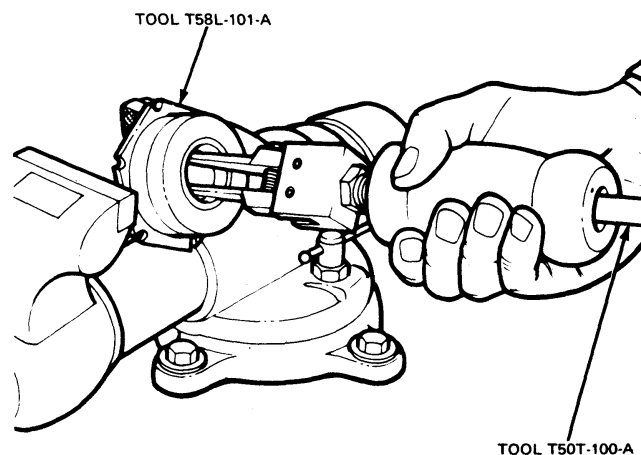

FIG. 14 Removing Wormshaft Lower Bearing Cup from Adjuster Plug
1. Remove the wormshaft lower bearing cup using Tool T58L-101-A and Slide Hammer T50T-100-A as shown in Fig. 14.